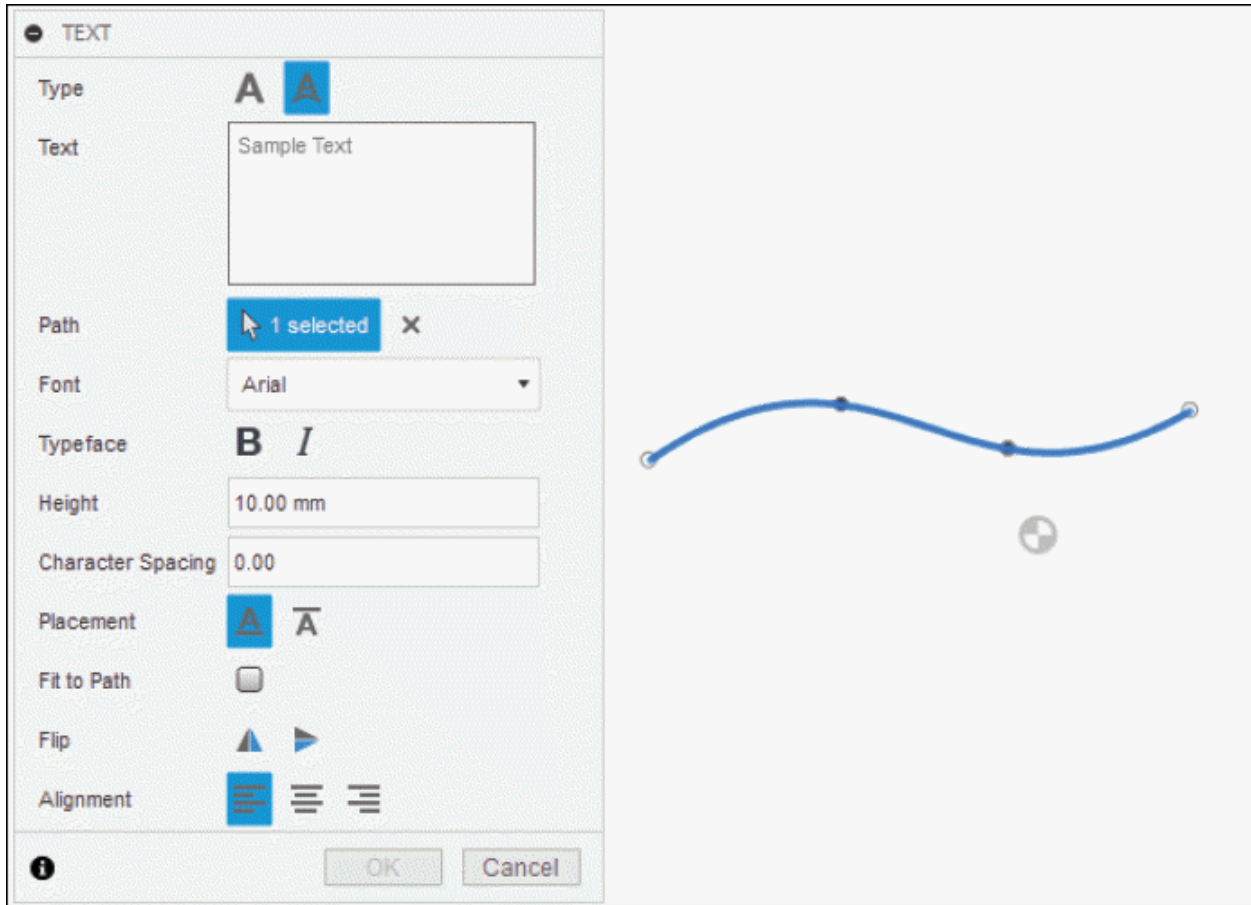

Figure-50. Updated TEXT dialog box with path selected
- Select the path created for the text to follow. The **TEXT** dialog box will be updated and the selected path will be displayed in the **Path** section of the dialog box; refer to Figure-50.